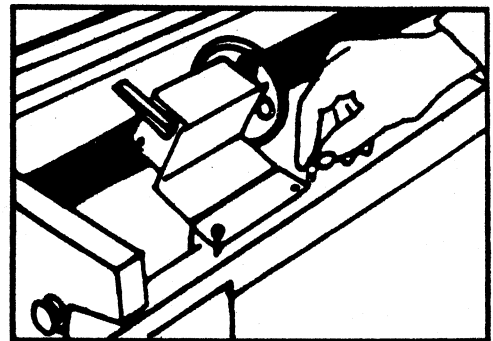

Figure 4
2. The bracket attaches to the back side of the Pasting Machine trough as shown in (Figure 4).